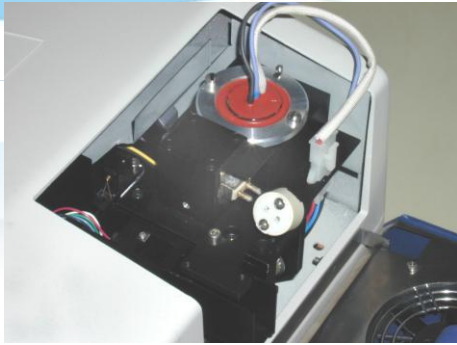

Figure 3-7. Halogen lamp socket disconnected from halogen lamp base
4. Unplug the halogen lamp socket from the base of the halogen lamp (Figure 3-7).